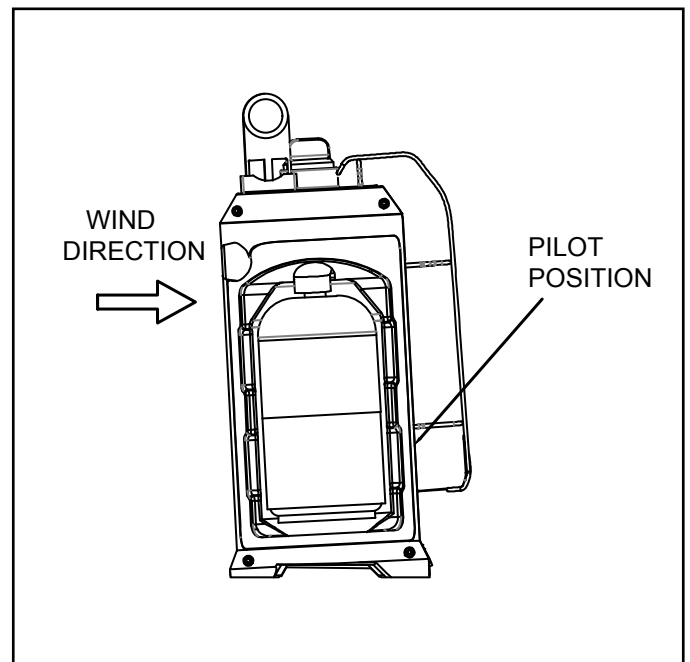

Fig. 3 - Lighting in Windy Areas
1. Position the heater such that the Pilot is opposite the direction that the wind is coming from. See figure 3